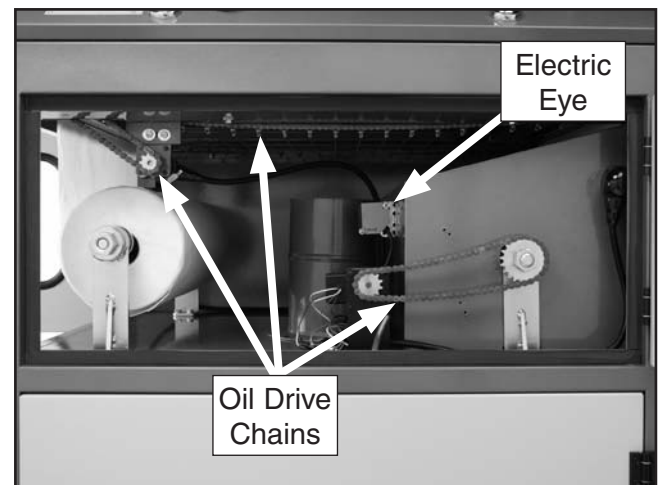

Figure 24. Lubrication locations.
- Carefully wipe off any dust caked on the electronic eye lens (see **Figure 24** for location).
- Use a dry rag and wipe all drive chains and sprockets clean; then brush the chain links with a thin coat of light machine oil. Refer to **Figure 24** for locations.
Use a dry rag to wipe all drive chains and sprockets clean; then brush the chain links with a thin coat of light machine oil. Refer to **Figure 24** for locations.